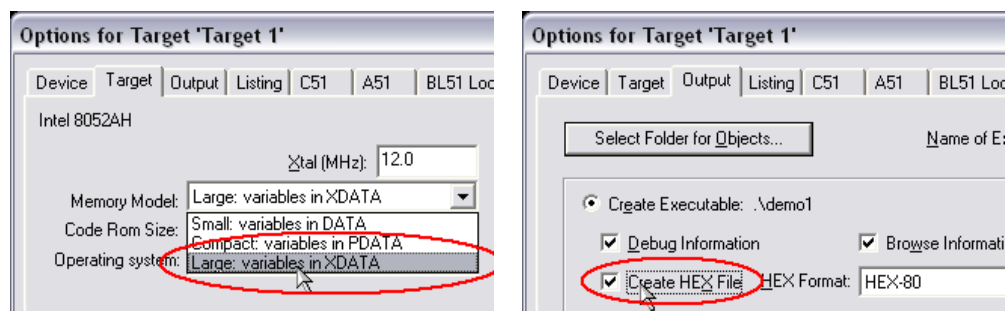

Figure 5-4 Project Option Configuration
- Set project options. Click the menu “Project”→“Options for Target ‘Target 1’”, and choose “Memory Model” as “Large” in the “Target” page as shown in Figure 5-4;